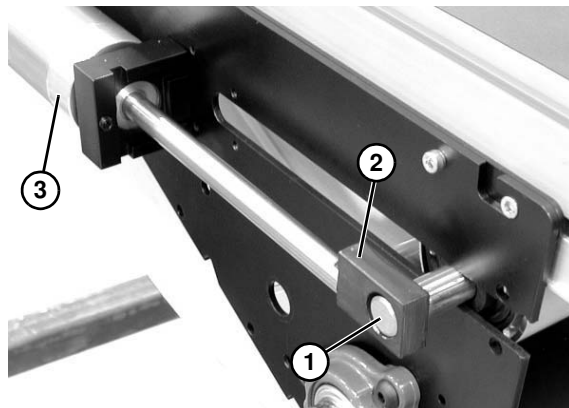

Figure 80
11. Push shaft (**Figure 80, item 1**) through block (**Figure 80, item 2**) on opposite side of center drive, and slide block toward air cylinder (**Figure 80, item 3**).